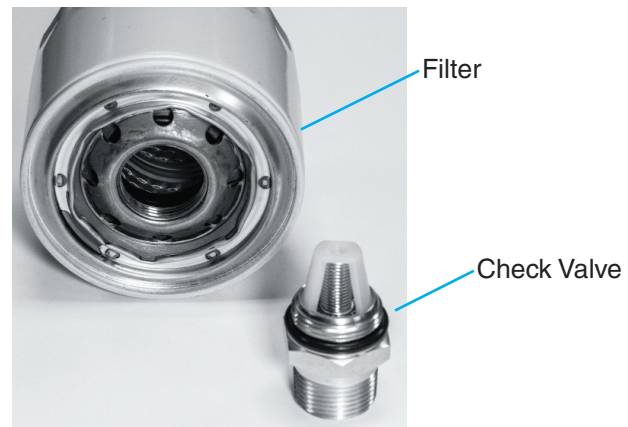

Figure 15 Breather Assembly
5. Remove the check valves. Discard the old filters in accordance with local regulations. See Figure 15.